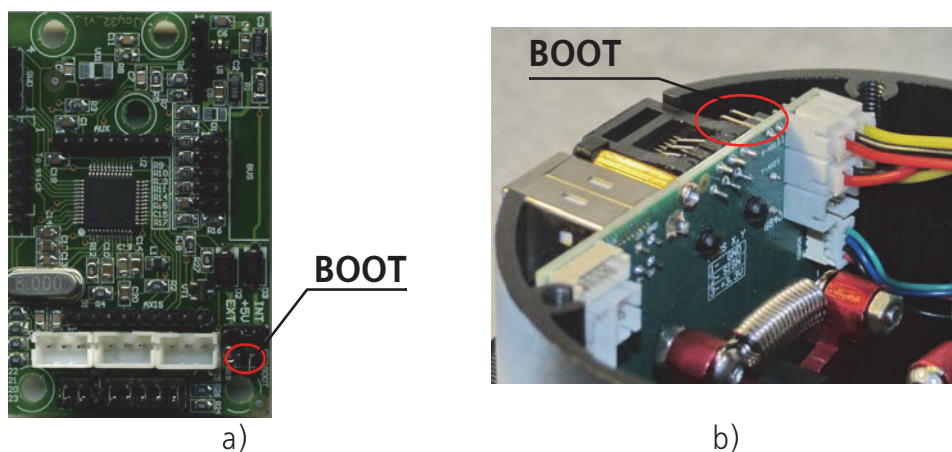

Fig. 2.5.
3. Short BOOT jumper on the controller plate (Fig. 2.5).